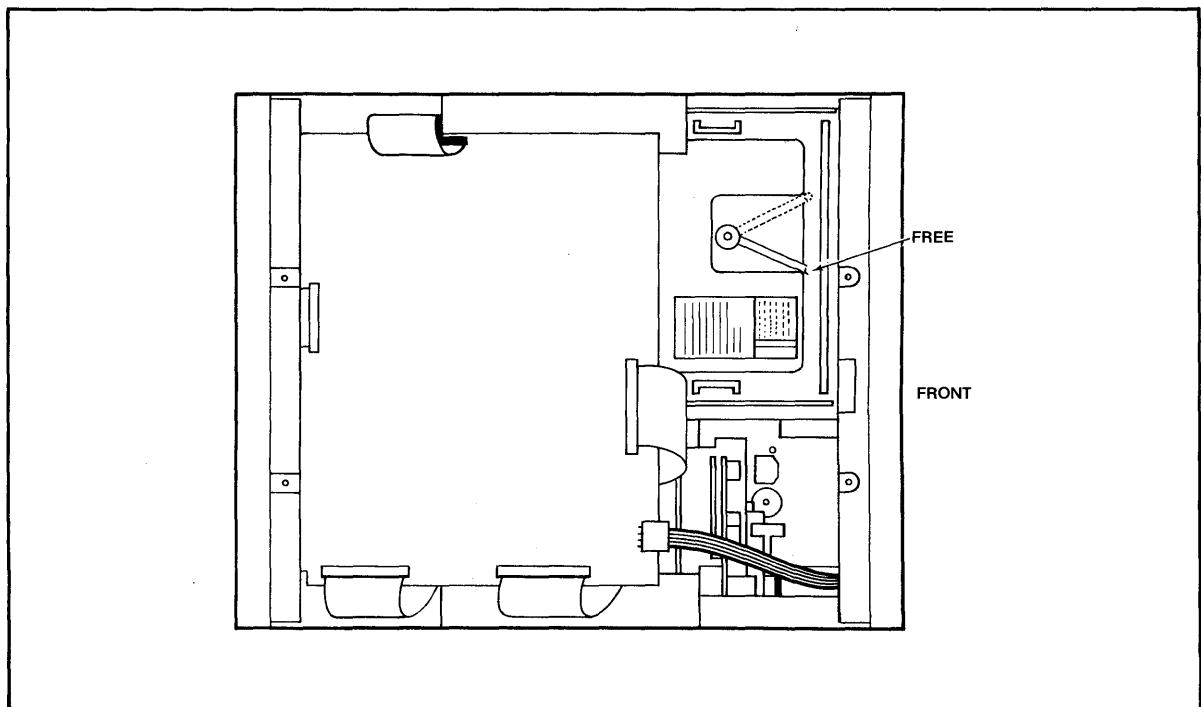

Figure 2-5 Hard Disk Locking Lever in Free (Operating) Position
3. Move the hard disk locking lever to the *FREE* position (shown in Figure 2-5).